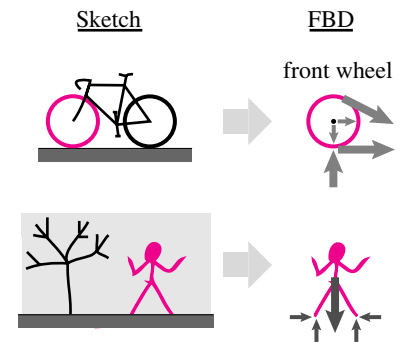

Figure 2.37: A sketch of a bicycle and a free-body diagram of the braked front wheel. A sketch of a person and a free-body diagram of the whole person.
- **The system.** A free-body diagram is a picture of the system for which you would like to apply the laws of mechanics (These are linear or angular momentum balance, force and moment balance being special cases, or power balance). The free-body diagram shows the system isolated ('free') from its environment. That is, the free-body diagram does *not* show things that are near to or touching the system of interest. The system must be *free* from its environment. See fig. 2.37.